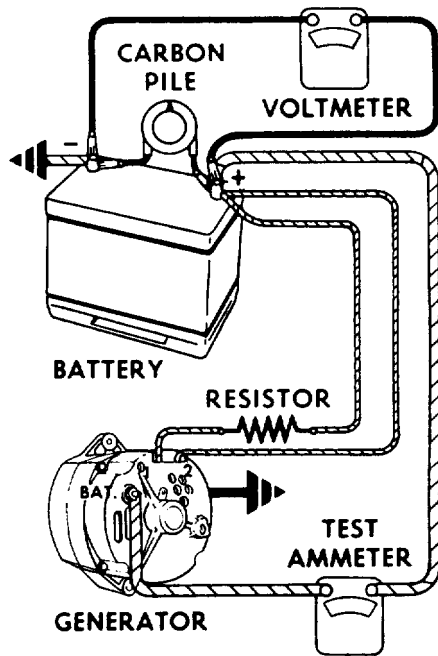

Fig. 15 - Connections for Generator Bench Check
1. Make connections as shown in Fig. 15, except leave the carbon pile disconnected.